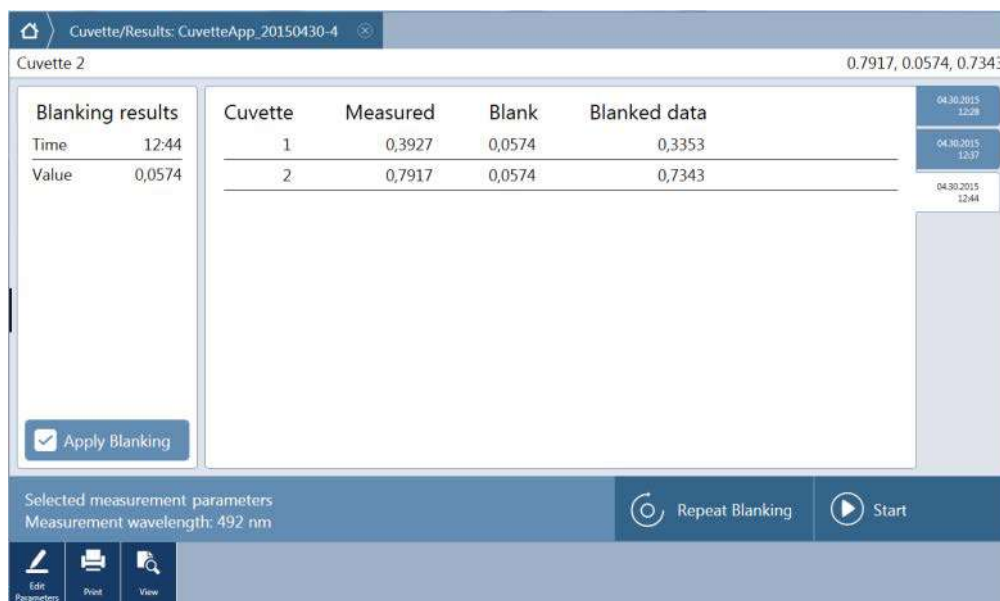

Figure 113: Result window with multiple result sheets
4. If needed, repeat blanking during the current measurement session via **Repeat blanking**. The old blanking value is discarded and the new blanking value is valid for all the following measurement. For each repetition, a new result sheet is generated indicated by the tabs placed on the right side of the Result window (Figure 113: Result window with multiple result sheets). Each tab is provided with the date and time of the respective blanking readout.